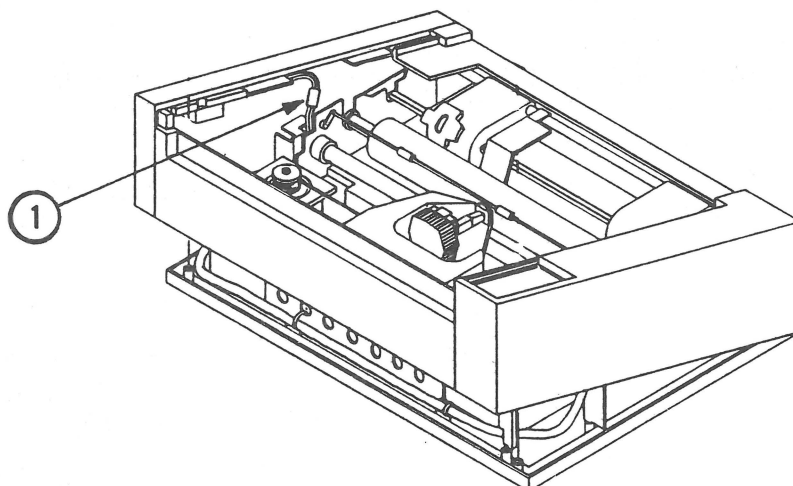

FIGURE 5
8. Unplug the connector (Figure 5, #1) on the left side near the paper release lever.
3. Plug the connector (Figure 5, #1) on the left to its mate.